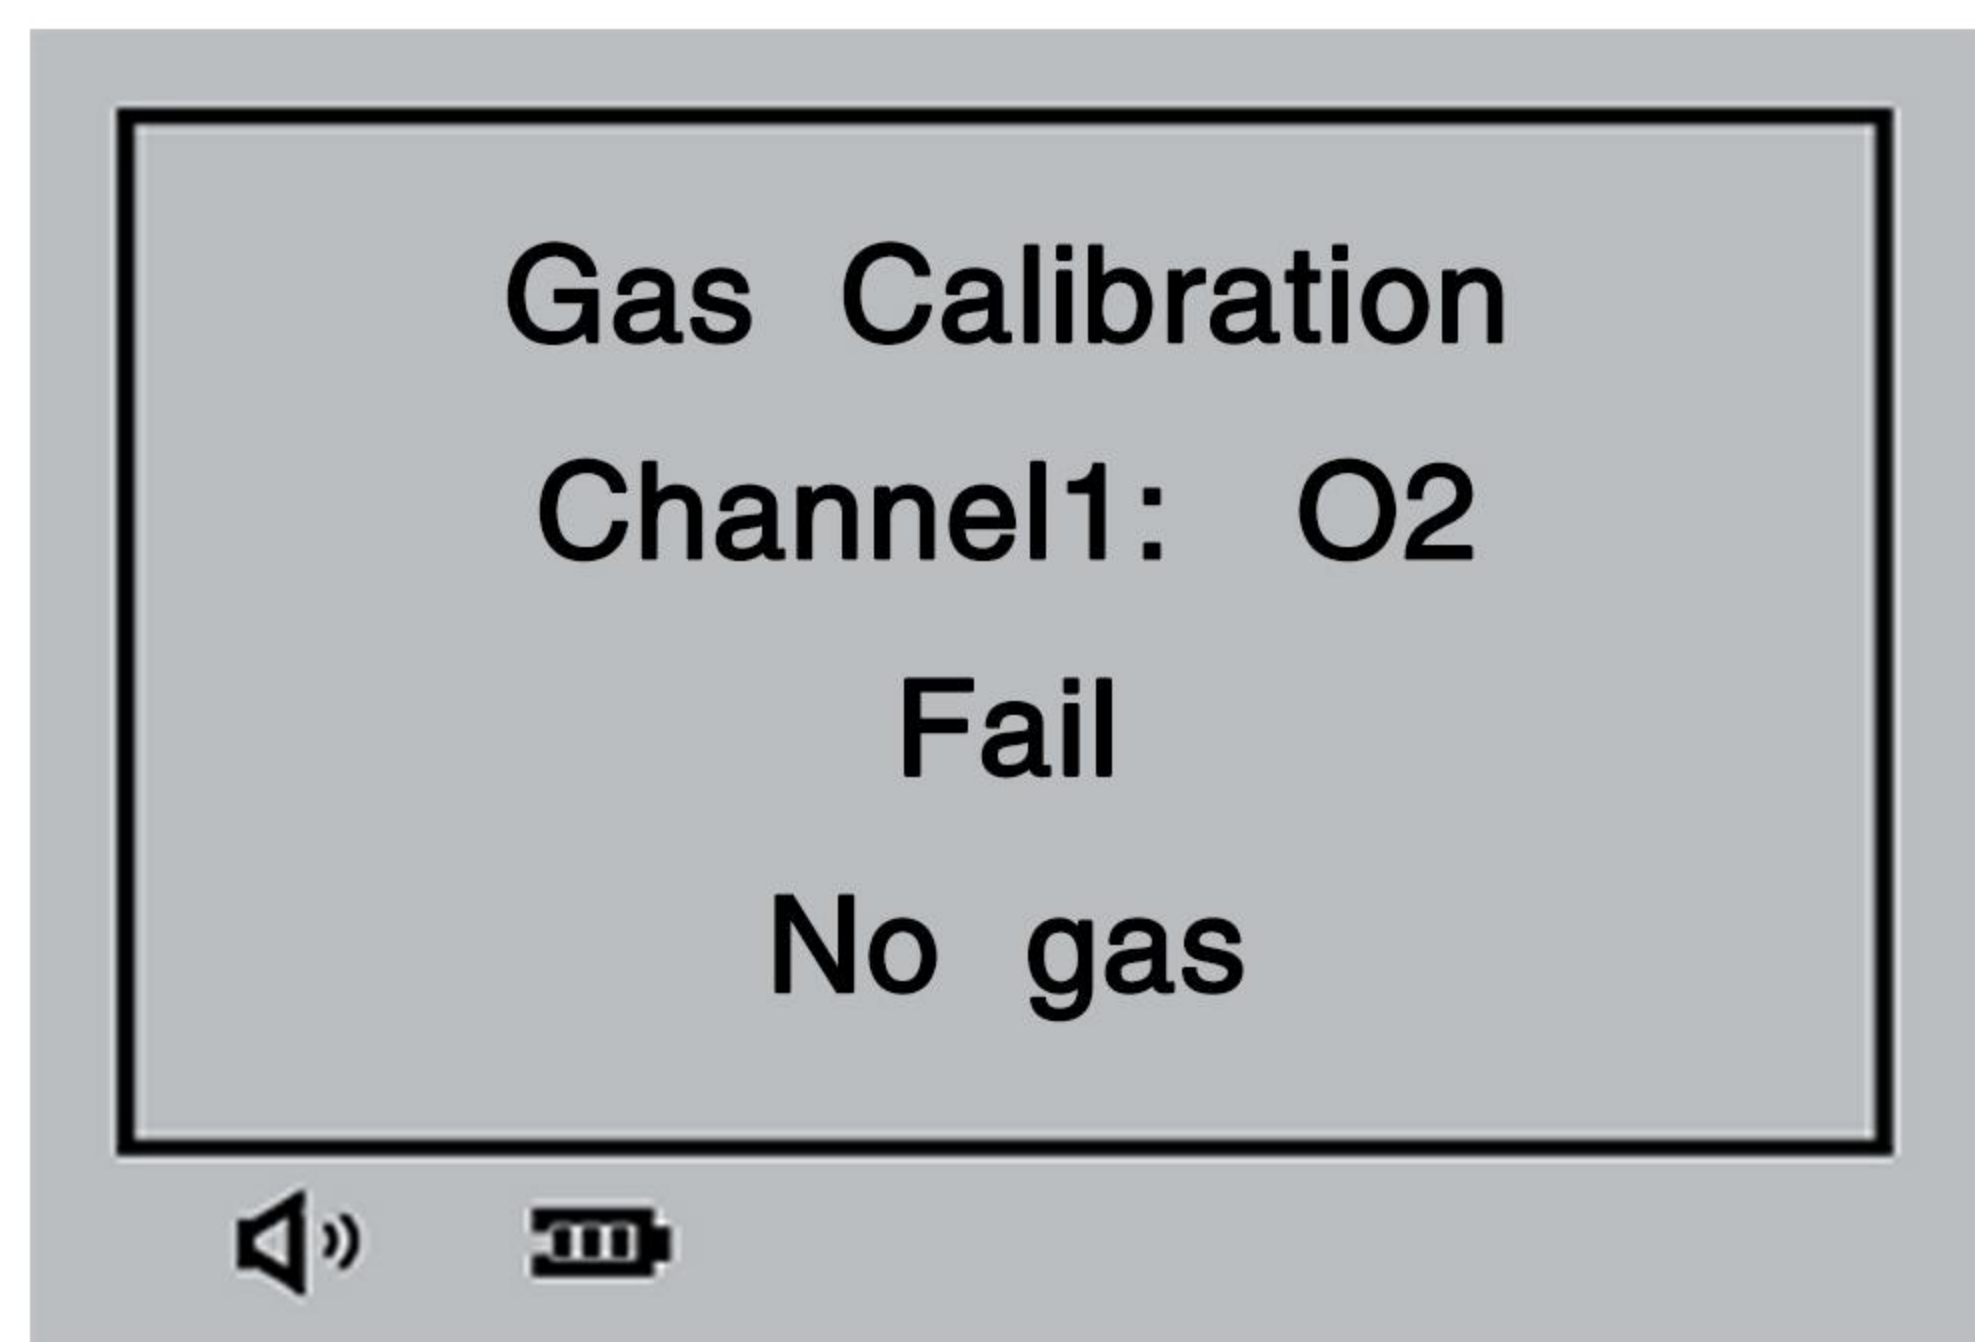

Figure 21
- If no standard gas is introduced or the sensor is faulty, the prompt shown in Figure 21 will appear.